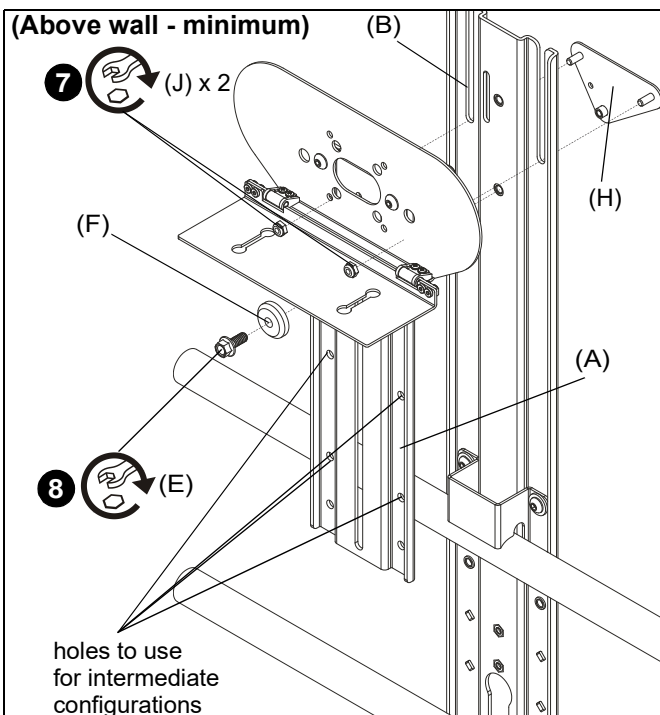

Figure 16
- (For **minimum/intermediate extension**) Use two #10-24 lock nuts (J) to secure upright bracket (A) to main bracket (B) and adapter plate (H). (See Figure 16)
- (For **minimum/intermediate extension**) Use 1/4-20 x 5/8" hex head flange bolt (E) and center washer (F) to secure upright bracket (A) to main bracket (B). (See Figure 16)